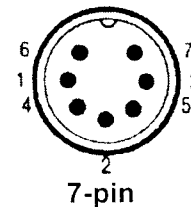

Figure 1
5. Disconnect the 7 pin socket N°5 from the power unit. See appendix 1 page 2-4. Measure the resistance between terminals 1 and 7 (see figure 1) using an ohmmeter (see appendix 2).